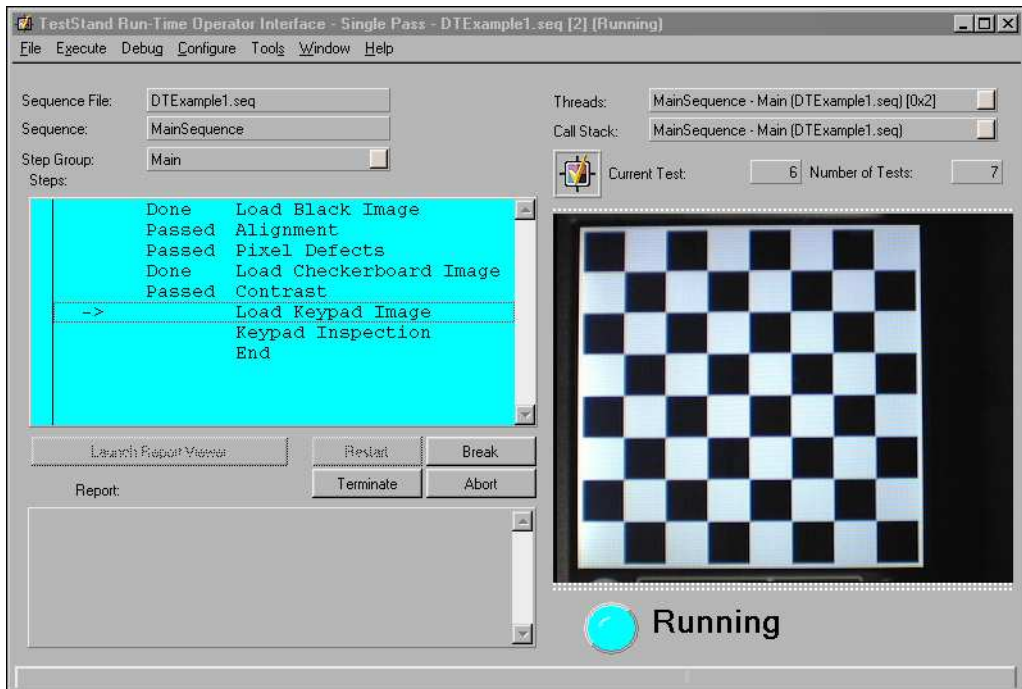

Figure 3-4. Execution Display Window
1. Click the **Single Pass** button. An Execution Display window appears, as shown in Figure 3-4.